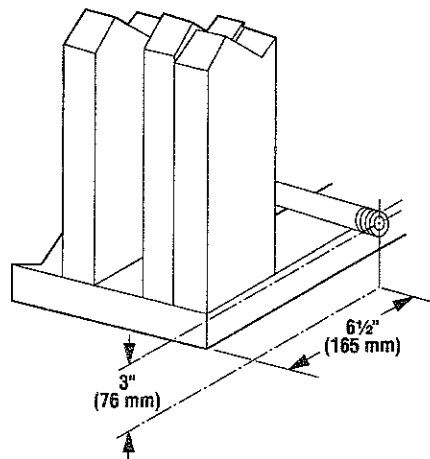

Figure 8
Step 2. Route a ½" (13 mm) gas line along the left or right side framing (*Figure 8*).